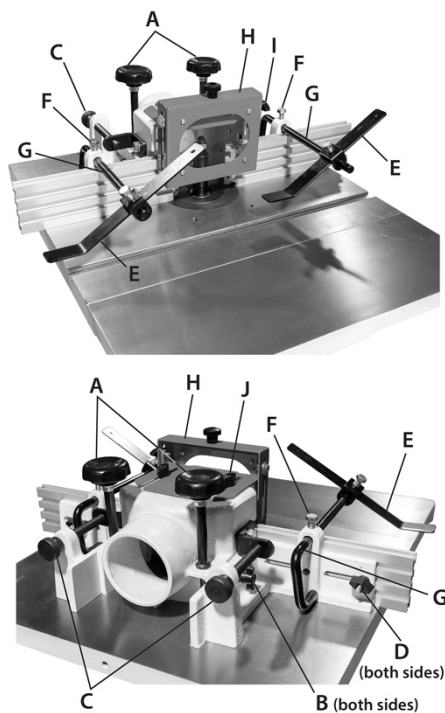

Figure 7
1. To adjust the position of the entire dust chute/fence assembly, loosen and remove the two lock bars (A, Figure 7) from the table. Reposition and align the dust chute/fence assembly over the threaded lock bar holes on the table. Insert the two lock bars through the dust chute housing and tighten into the threaded holes.
2. To adjust fence halves in and out, loosen wing screws (B, Figure 7) and turn knurled knobs (C, Figure 7). When positioned, tighten the wing screws to lock fence halves in place.
3. To adjust the fence widths, loosen the wing knob (D, Figure 7) and move the fence half closer to or farther away from the spindle. When positioned, tighten the wing knob to lock fence in place.
4. Adjust spindle guard (H, Figure 7) height by loosening wing nut (I, Figure 7), sliding guard up or down to desired height, and then tightening wing nut.
5. Adjust spindle guard depth by loosening two lock knobs (J, Figure 7), moving spindle guard to desired position, and then tightening two lock knobs.
6. To adjust guide plate position and height (E, Figure 7), loosen hex cap screw (F, Figure 7). Slide guide support bar (G, Figure 7) in or out and rotate to adjust guide plate height. When positioned, tighten hex cap screw.